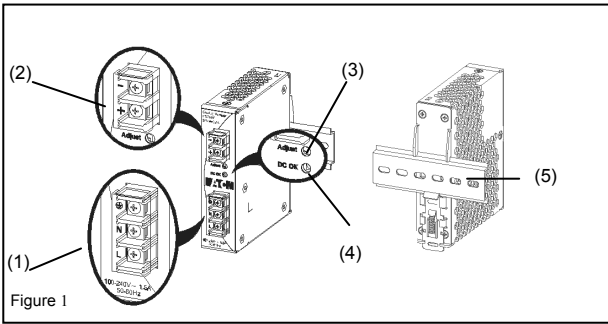
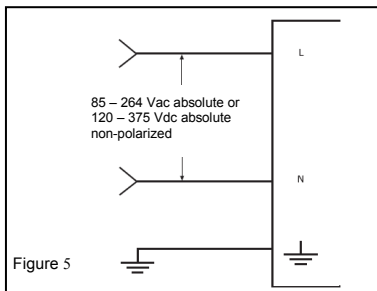

Figure 1
Figure 5
2. Device description (Fig. 1)
5.1. Input connection (Fig. 1 and Fig. 5)
Refer to Figure 5 for input connections.
5.2. Output connection (Fig. 1 (2))
Use the "+" and "-" screw connections to establish the 24 VDC connection. The output provides 24 VDC. The output voltage can be adjusted from 22 to 28 VDC on the potentiometer. The green LED DC OK displays correct function of the output (Fig. 1 (4)). The device has a short circuit and overload protection and an over voltage protection limited to 35 VDC.